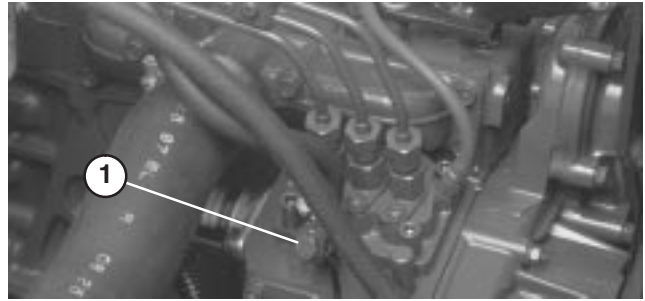

Figure 23
BLEEDING FUEL SYSTEM (Fig. 23)
2. Open the air bleed screw on the fuel injection pump (Fig. 23) with a 12 mm wrench.